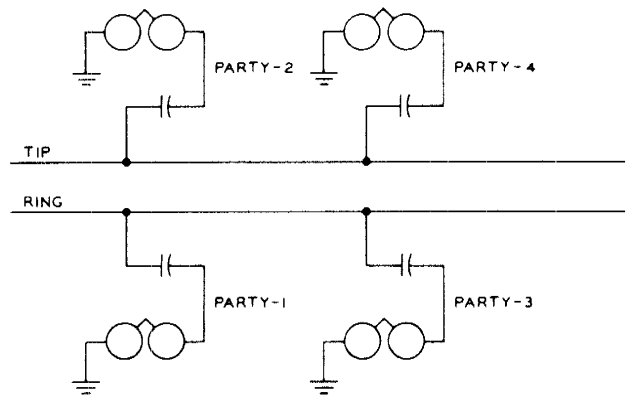

Fig. 3 — Four-Party Semiselective Grounded Ringing
**3.04** Four-party semiselective ringing (Fig. 3) is accomplished by connecting the capacitor ringing bridges of two stations from each side of the line to ground. Code ringing is used to differentiate between stations on same side of line.